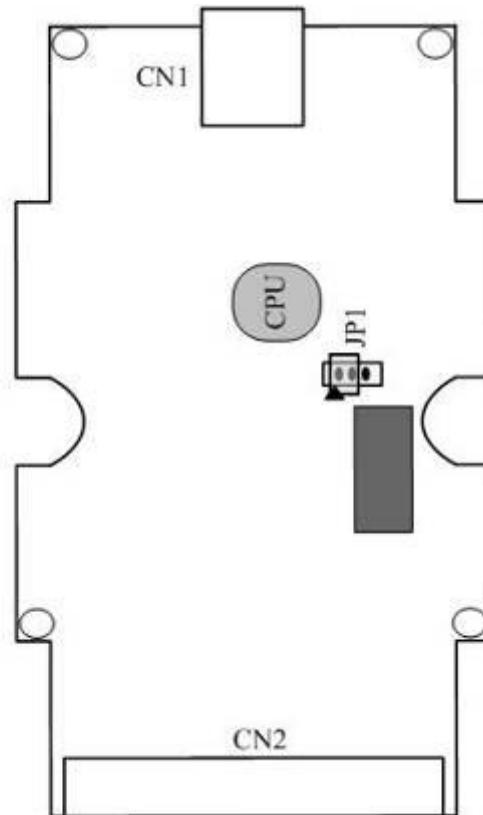

Figure 2-8: Firmware Updating
- (1) Set the jumper (JP1) to the firmware updating position like Figure 2-8 and reboot I-7567. Then I-7567 will work in the "Firmware Update Mode". In this mode, users can update the firmware of I-7567 module via USB and the I-7567 will become a "USB Mass Storage" device like Figure 2-9.